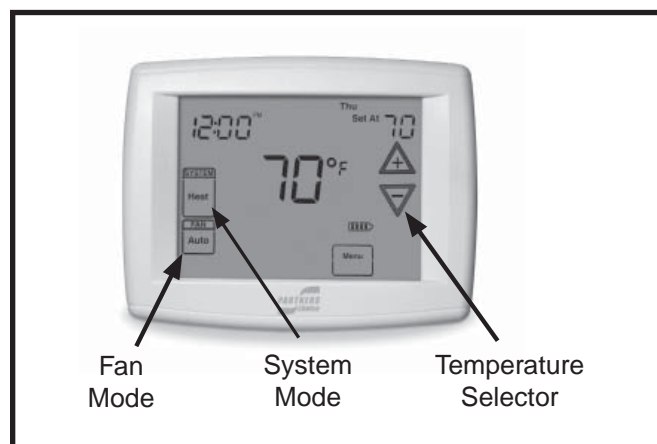

Figure 1. Digital Thermostat
1. Set the thermostat's system mode to COOL or AUTO and change the fan mode to AUTO. See Figure 1.
1. Set the thermostat's system mode to HEAT or AUTO and change the fan mode to AUTO. See Figure 1.
1. Set the thermostat system mode to AUTO and the thermostat fan mode to AUTO. See Figure 1.
Set the thermostat fan mode to ON (Figure 1). The indoor blower starts immediately, and will run continually until the fan mode is reset to AUTO.
Change the thermostat's system mode to OFF and the fan mode to AUTO. See Figure 1. **NOTE:** The system will not operate, regardless of the temperature selector setting.